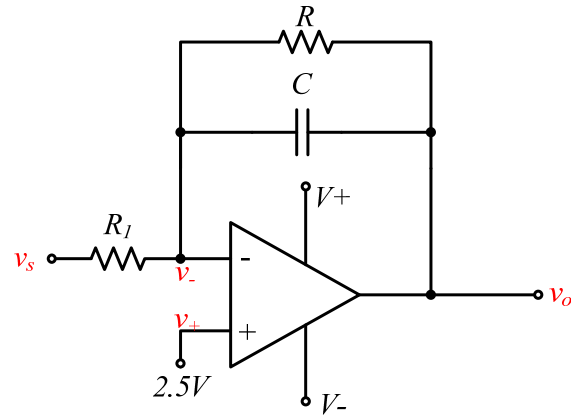

Figure 1: First Order Active Low-Pass Filter
The transfer function and the cut-off frequency of the first order active low pass filter shown in Figure 1 can be represented as follows:
1. Build the circuit on breadboard as shown in Figure.1. Choose C as 10nF, design R1 and R such that the 1st order active low pass filter exhibits gain of 3dB and cut-off frequency of 1kHz.